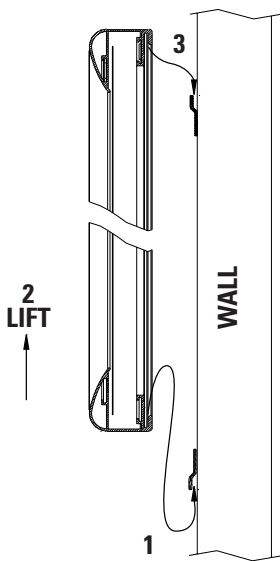

**FIGURE 2**
1. Secure the large wall bracket to wall studs at the desired height. Make sure the bracket is level. The top of the frame will be 1/8" above the top of the wall bracket when mounted. You will need at least 5/8" clearance above the bracket to hang the screen. Figures 2, 3, and 4 show the proper orientation for the supplied wall brackets.